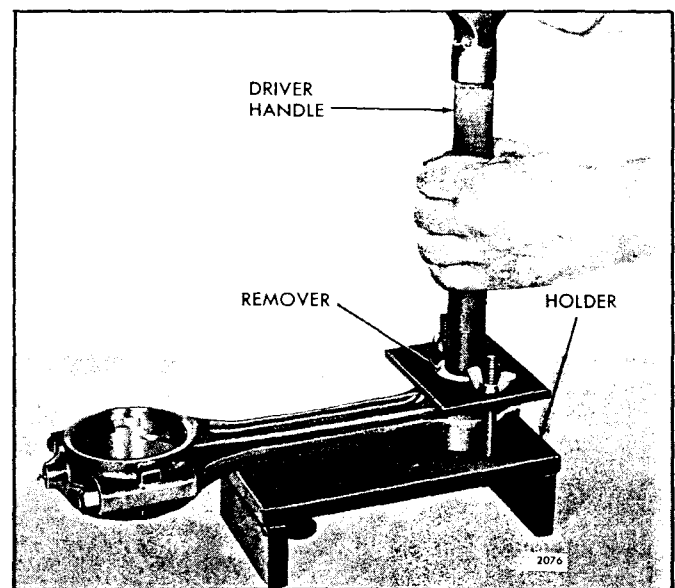

Fig. 4 - Removing or Installing Bushings
1. Clamp the upper end of the connecting rod in holder J 7632 (Fig. 4) so that the bore in the bushings is aligned with the hole in the base of the holder.
3. Insert installer J 4972-2 in the bushing, then insert handle J 1513-2 in the installer and drive the bushing into the connecting rod until the flange of the installer bottoms on the connecting rod (Fig. 4).